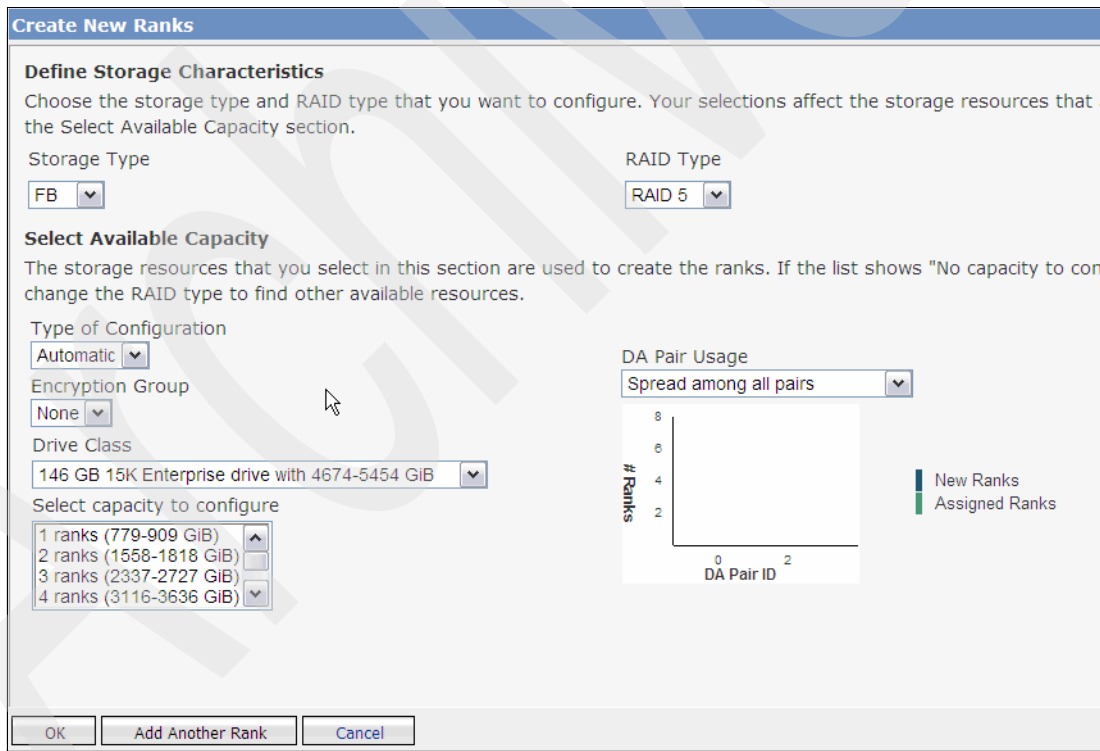

Figure 13-30 Create New Rank window
2. The Create New Ranks window opens (see Figure 13-30).